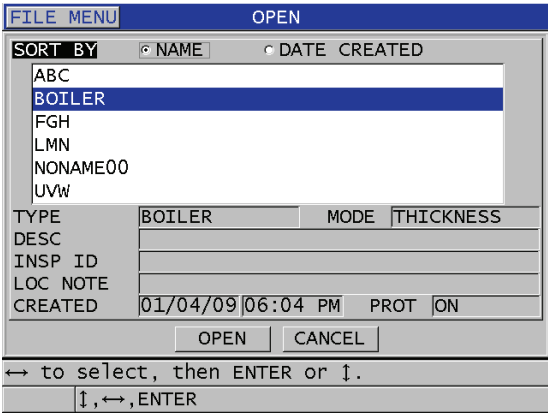

Figure 11-16 Opening a file
3. In the **OPEN** screen (see Figure 11-16 on page 176):